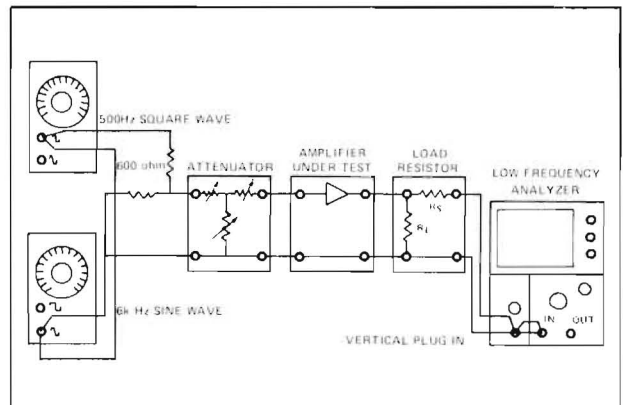

Figure 50 Equipment setup for TIM demonstration
1. Connect the equipment as shown in Figure 50. Two SG502 Audio Generators must be combined as shown, one set to produce 500 Hz square waves, the other 6 kHz sine waves. A FG501 may be substituted for the square wave source. The square wave used should have excellent symmetry.